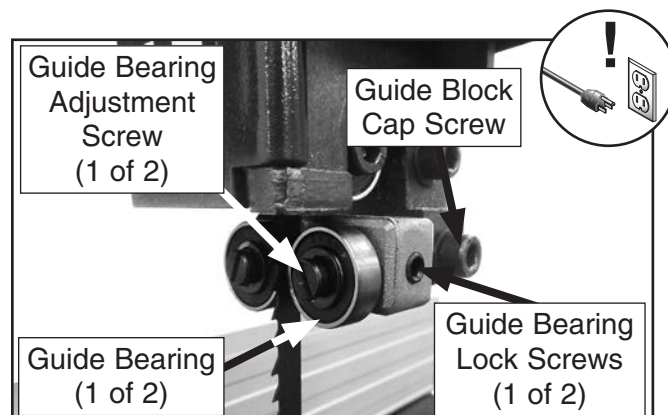
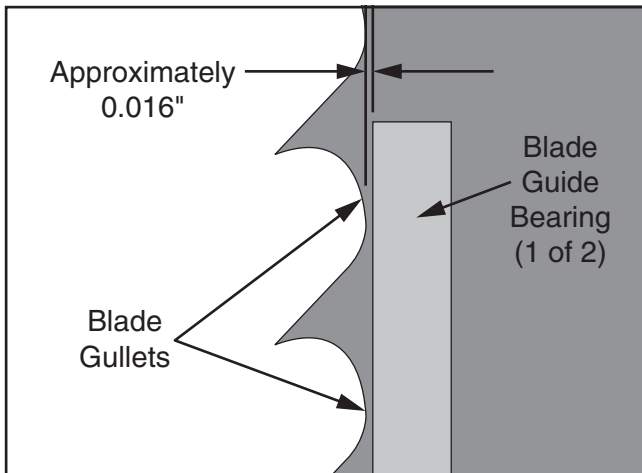
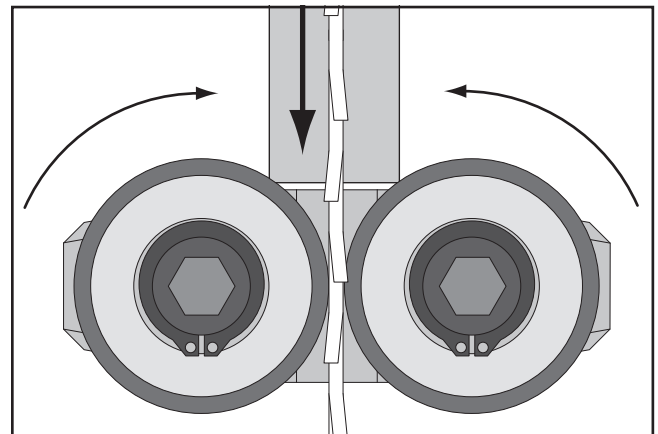

Figure 25. Upper guide bearing components.
Figure 26. Blade guide bearing positioned just behind blade gullets.
Figure 28. Blade guide bearings evenly and lightly touching the sides of the blade.
2. Loosen guide block cap screw shown in **Figure 25**, then laterally position guide bearings just behind blade gullets, as illustrated in **Figure 26**, then re-tighten cap screw to secure setting.
3. Loosen guide bearing lock screws (see **Figure 25** on **Page 23**).
4. Loosen both guide bearing adjustment screws (see **Figure 25** on **Page 23**), then position guide bearings so they evenly and lightly touch sides of blade (see illustration in **Figure 28**) without deflecting it one way or the other.